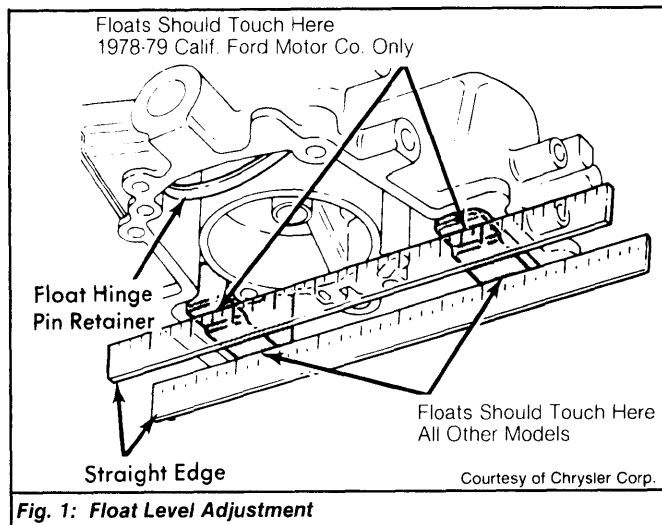

Fig. 1: Float Level Adjustment
1) With air horn removed, invert main body. Catch accelerator pump check ball and weight if not previously removed. Hold float hinge pin retainer in place with finger. See Fig. 1.